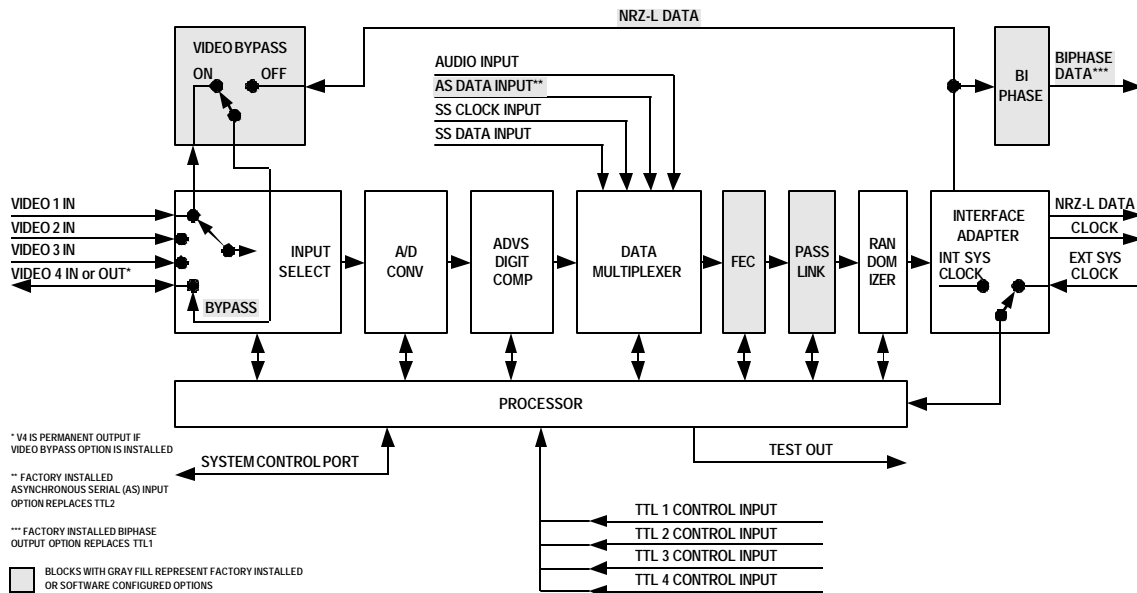

Figure 3 ENC1000A29 Functional Block Diagram
An overview of all of the features of the ENC1000A29 encoder is illustrated in Figure 3 below.
When turned on, the Data Multiplexer (Figure 3) allows the user to combine into one data stream various mixes of user data (Analog Audio (AA), digital Asynchronous Serial (AS), and digital Synchronous Serial (SS) clock and data) with the compressed digital video (DV) signal. This multiplexed data stream is optionally further processed by the FEC option, the Passlink option, and the Randomizer before being output.